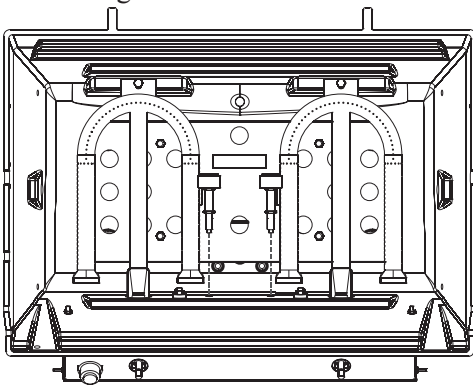

Figure 6
- Insert collector box assemblies into holes adjacent to burners. See Figure 6.